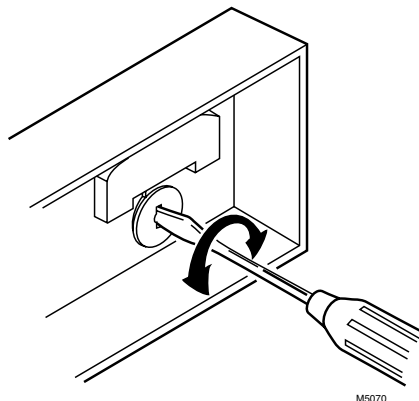

Fig. 13. Thermometer calibration.
- 4 Insert a small screwdriver in the thermometer shaft and turn it until the thermometers read the same. See Fig. 13. When the thermometer is calibrated, replace the cover and place the system into operation.